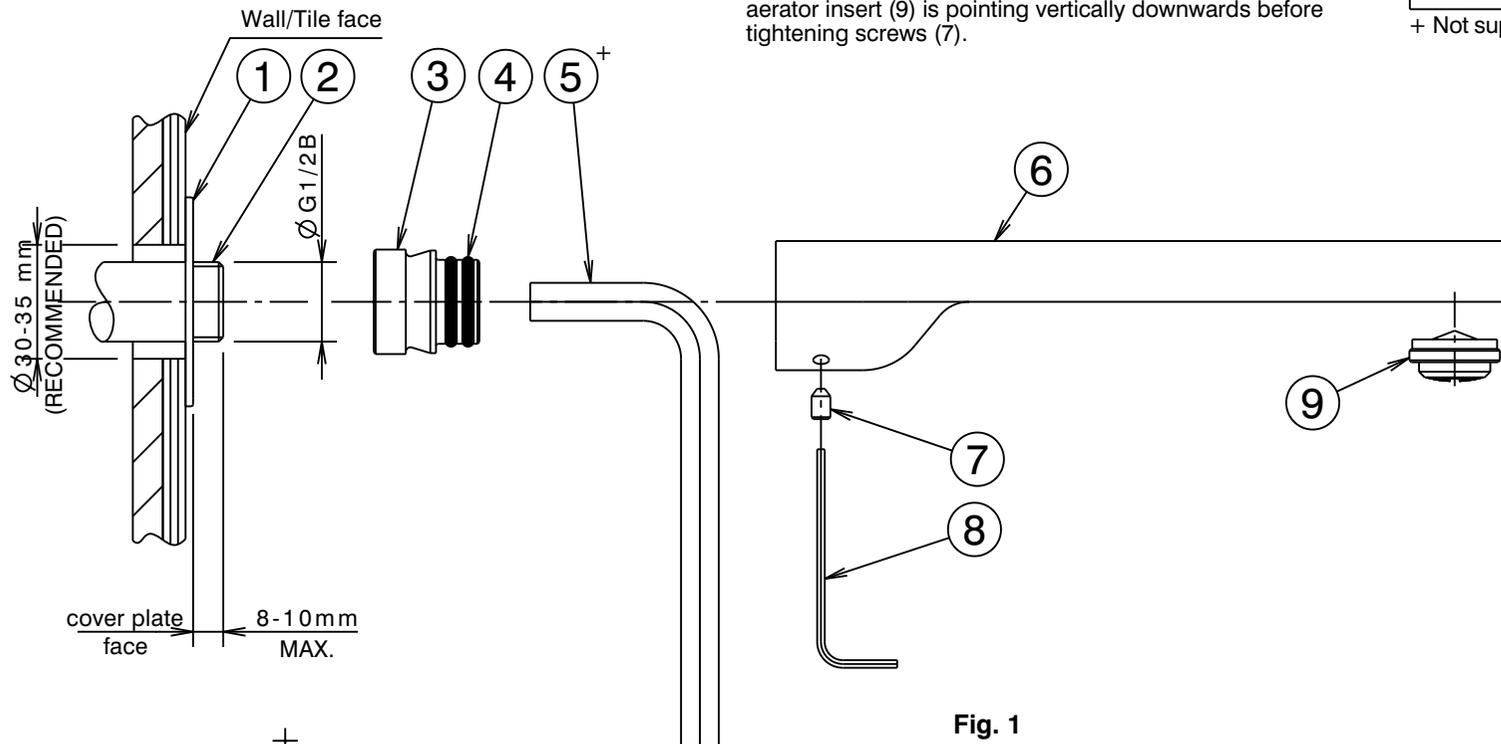

Fig. 1
- 1) Fit the cover plate (1) over threaded nipple (2) and check that the thread is the correct length, as shown (Fig.1). Cut to length if required ensuring end face is square. Apply thread tape to the thread. **Important** : Care must be taken that thread tape cannot become dislodged and block the flow regulating device, causing a reduction in water flow. To ensure correct installation, length of exposed thread must not exceed 10mm.